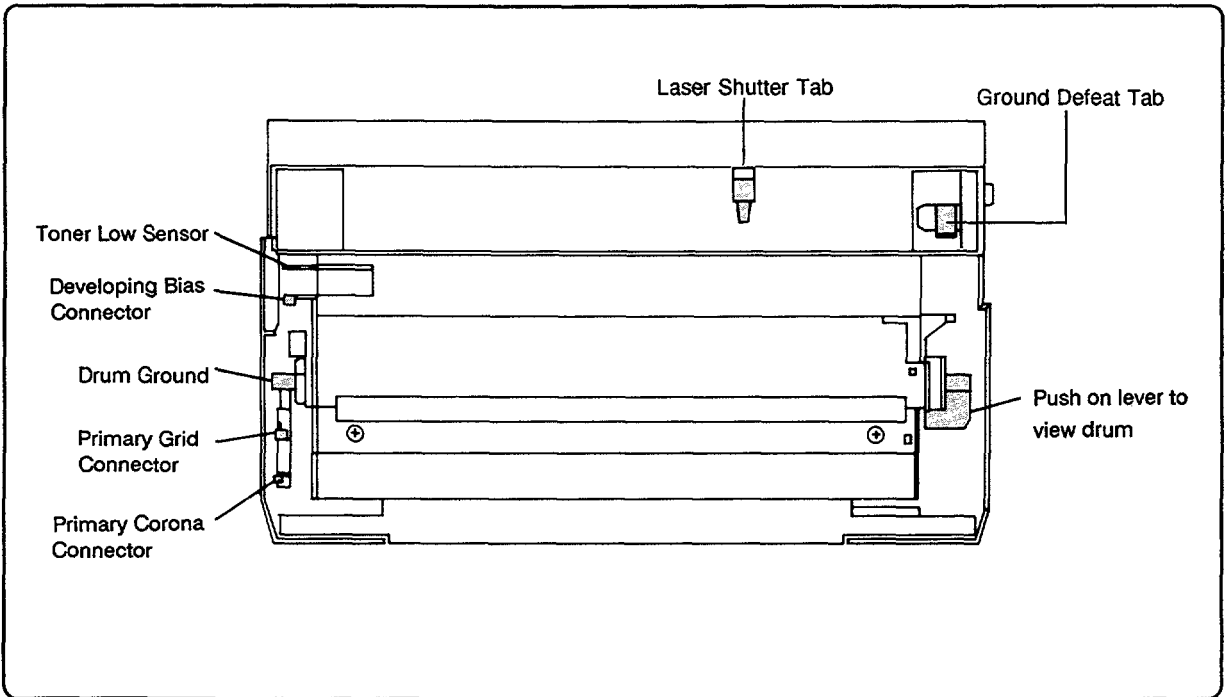

Figure 7-19. EP-S Cartridge (Bottom view)
3. Is the EP-S Cartridge defective? (See Figure 7-19.)	Replace the EP-S Cartridge if visibly damaged.
5. Does the Registration Assembly float with respect to ground when the Top Cover Assembly is closed?	Verify that the ground defeat tab on the EP-S Cartridge (Figure 7-19) is not damaged. With the ground defeat lever on the right side of the Registration Assembly (Figure 7-14) pushed down, resistance between the Registration Assembly and ground should be 15 Mohm ($\pm 5\%$). If the resistance is less than 15 Mohm, ensure the Registration Assembly is properly installed and clean as necessary to resolve the problem.
3. Is the laser shutter protrusion tab on the EP-S Cartridge broken or damaged?	Visually inspect (see Figure 7-19). Replace the EP-S Cartridge if necessary.